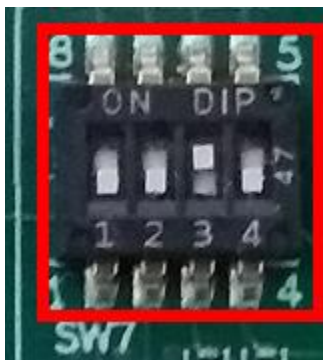

Figure 9. QSPI Flash Boot Mode Configuration
- Disconnect the USB Debug Cable, and configure the board to QSPI Flash Boot Mode which means SW7-3 pull-up others pull-down Figure 9.